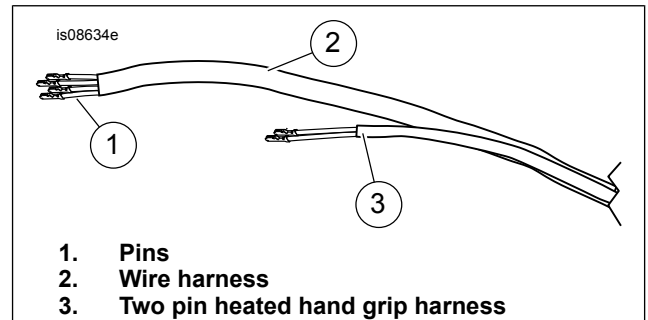

Figure 1. Pins and Wire Harness
- See Figure 1. Stagger the pins (1) so they are not in the same locations along the harness (2).